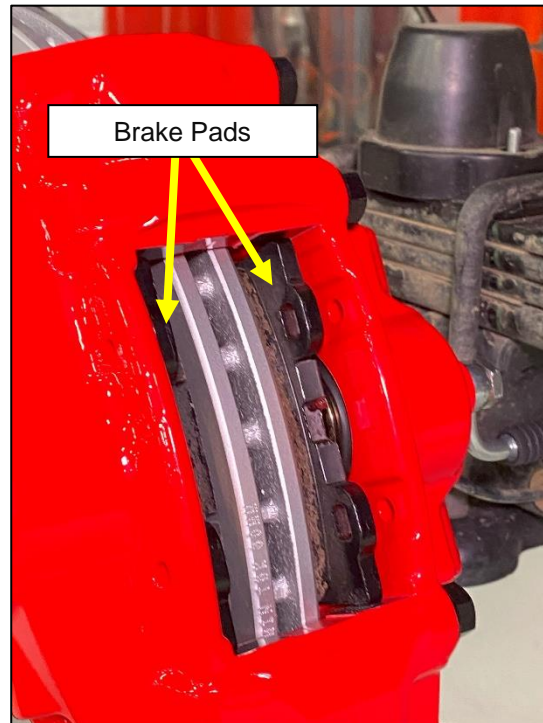

Figure 11
20. Locate (1) one Brake Hard Line. Install it into the back of the Caliper and into either the OE Soft Brake Line or the new Stainless Steel Brake Line.
21. Locate (1) one set of Brake Pads and Pad Hardware. Add a small amount of Brake Grease to the back side of the Brake Pads. Insert (1) one Brake Pad on each side of the Rotor with the pad facing the Rotor. *Figure 11.*